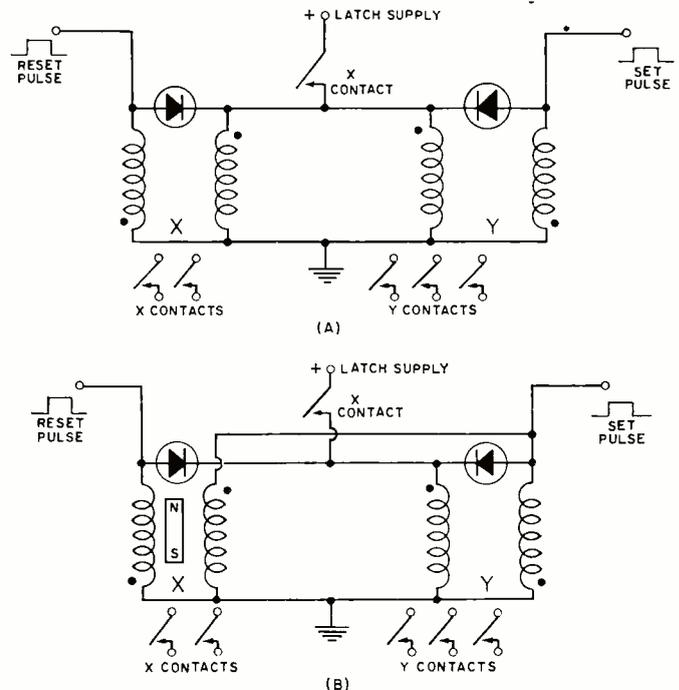

Fig. 7. Reed-relay flip-flops with (A) electrical and (B) magnetic memories. Number of contacts used is optional.
The next logic function to be discussed is that of the two-input set-reset (RS) flip-flop. This circuit requires two double-wound relays connected as shown in Fig. 7.